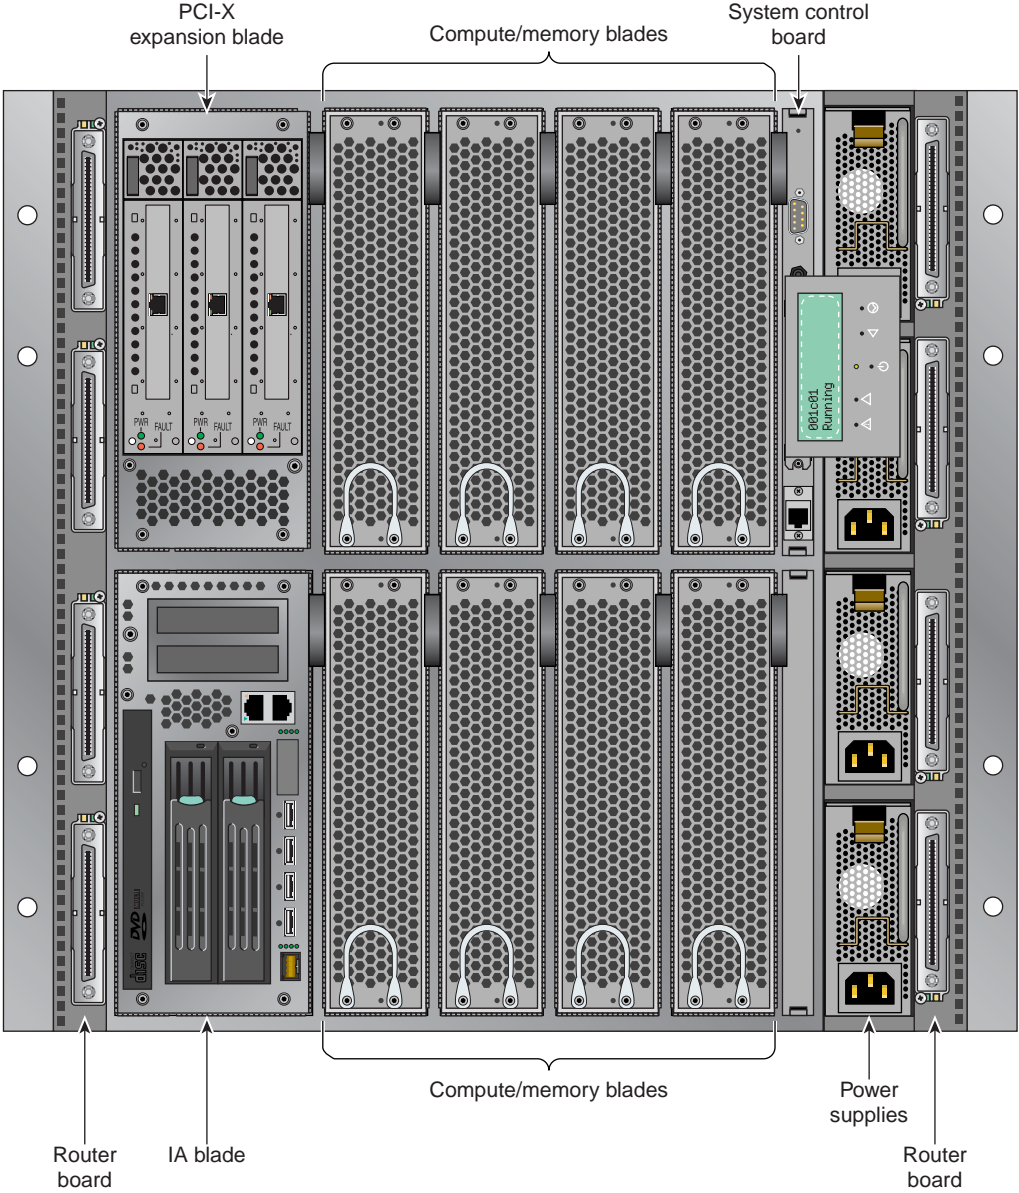

Figure 3-6 Altix 4700 IRU System Components Example
- **Individual Rack Unit (IRU).** This enclosure contains the compute/memory blades, IA2 blade (base I/O), standard routers and optional I/O blades for the Altix 4700. The enclosure is 10U high. Figure 3-6 on page 61 shows the Altix 4700 IRU system components.